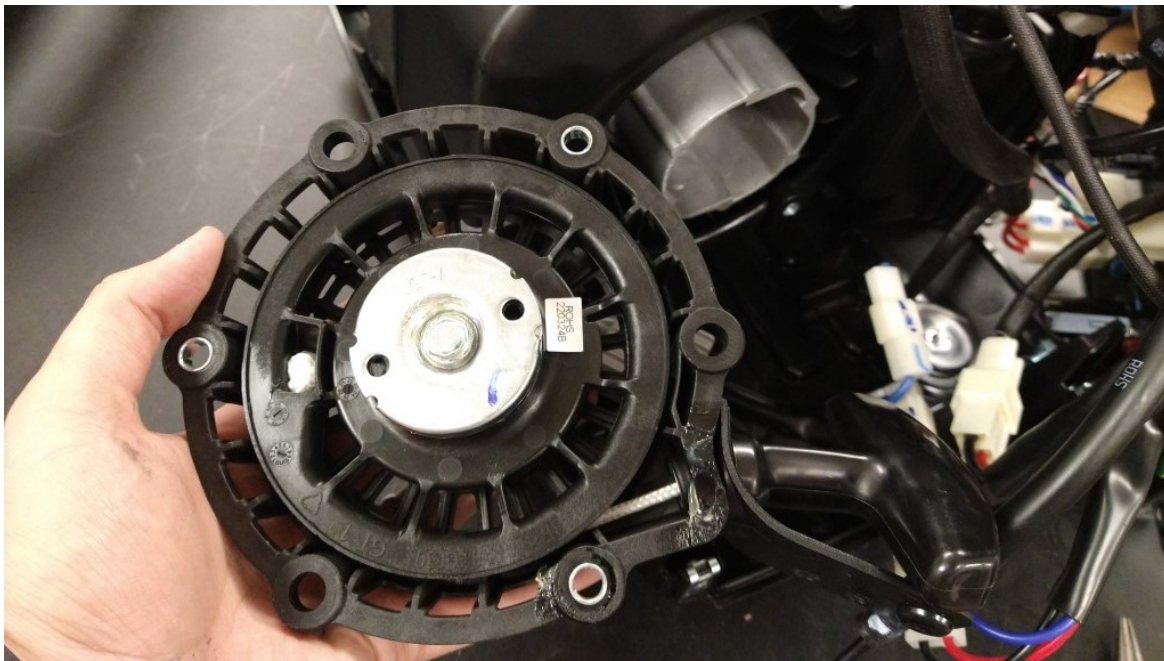

Fig. 15: Recoil starter removed.
15. Gently dismount the recoil starter from the generator (Fig. 15).